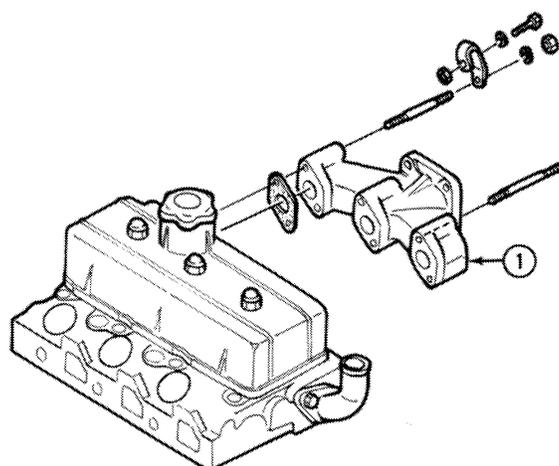

Figure 34
- Remove the exhaust muffler and manifold assembly, Figure 34.